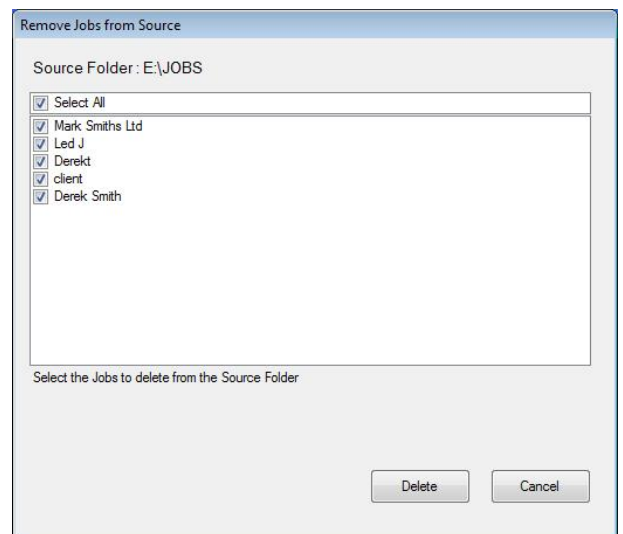

Figure 3.6 Remove screen
5. At the end of the import process you will be asked if you want to delete the job files from your removable storage device (see Figure 3.6).